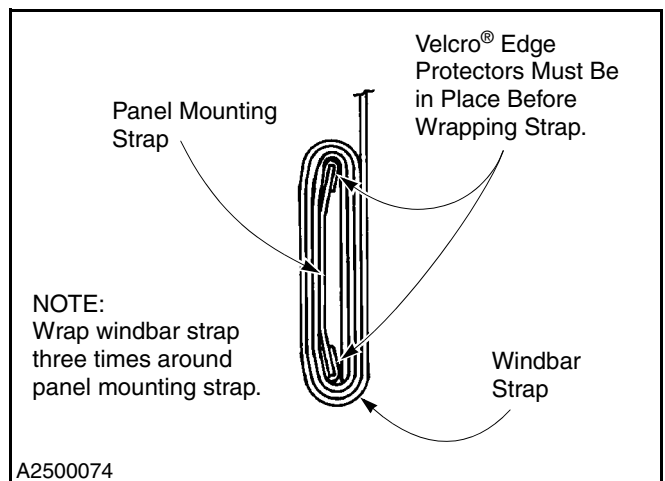

Figure 66
- Remove the old strap. Then install the new strap by first wrapping it around the panel mounting strap three times, as shown in Figure 66. Make sure the Velcro®¹ edge protectors are in place. (See Figure 66.)